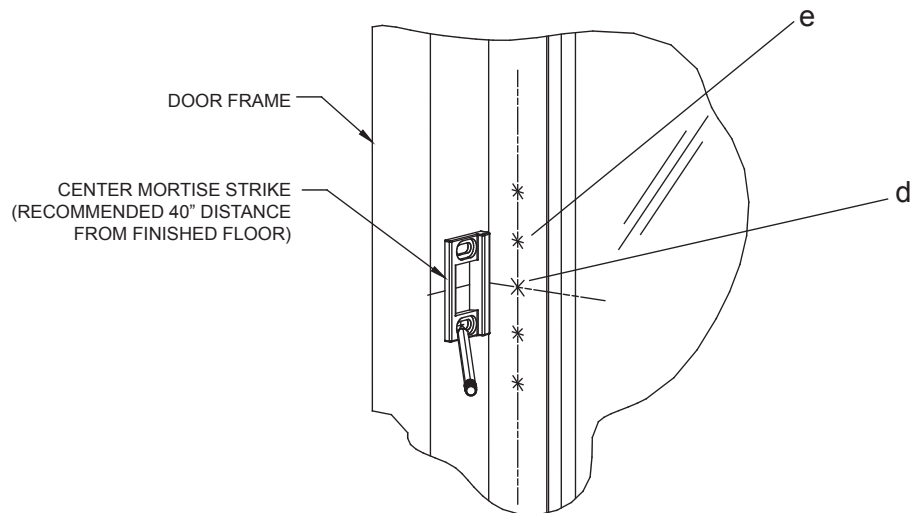

Fig. 5
7. Mark and center punch 2 strike holes. (See Fig. 5)
8. Drill one pilot hole "e" thru door (See Fig. 5).